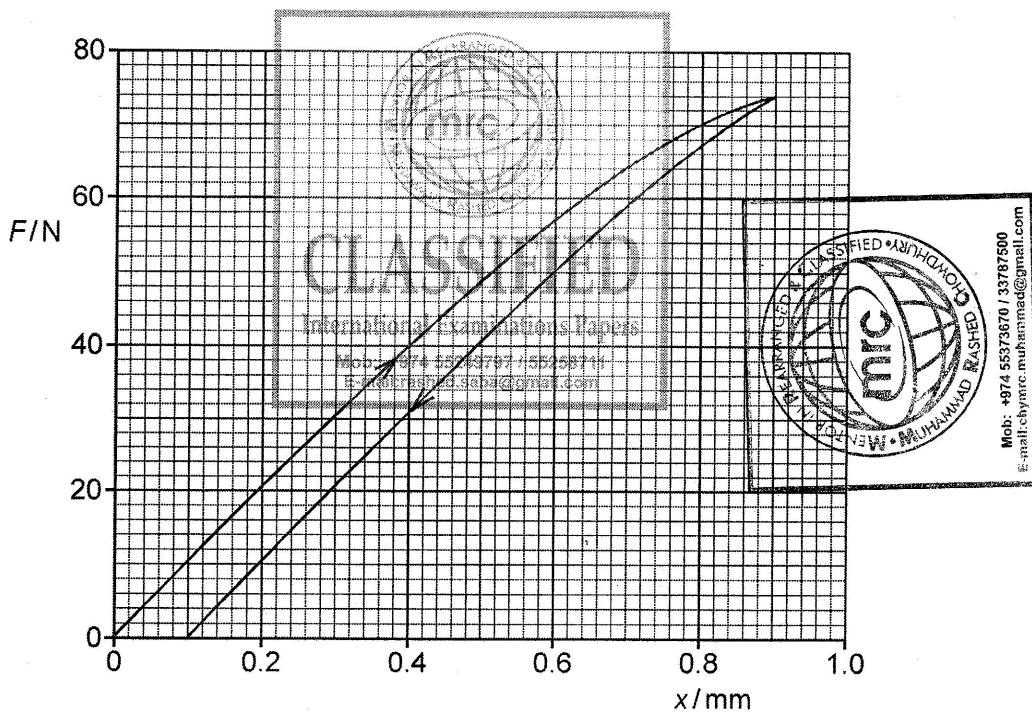

Fig. 4.1
The variation with extension  $x$  of the tension  $F$  in the wire is shown in Fig. 4.1.
- (i) On Fig. 4.1, shade the area that represents the energy  $E_S$ .
(ii) Use Fig. 4.1 to calculate the energy  $E_S$ .